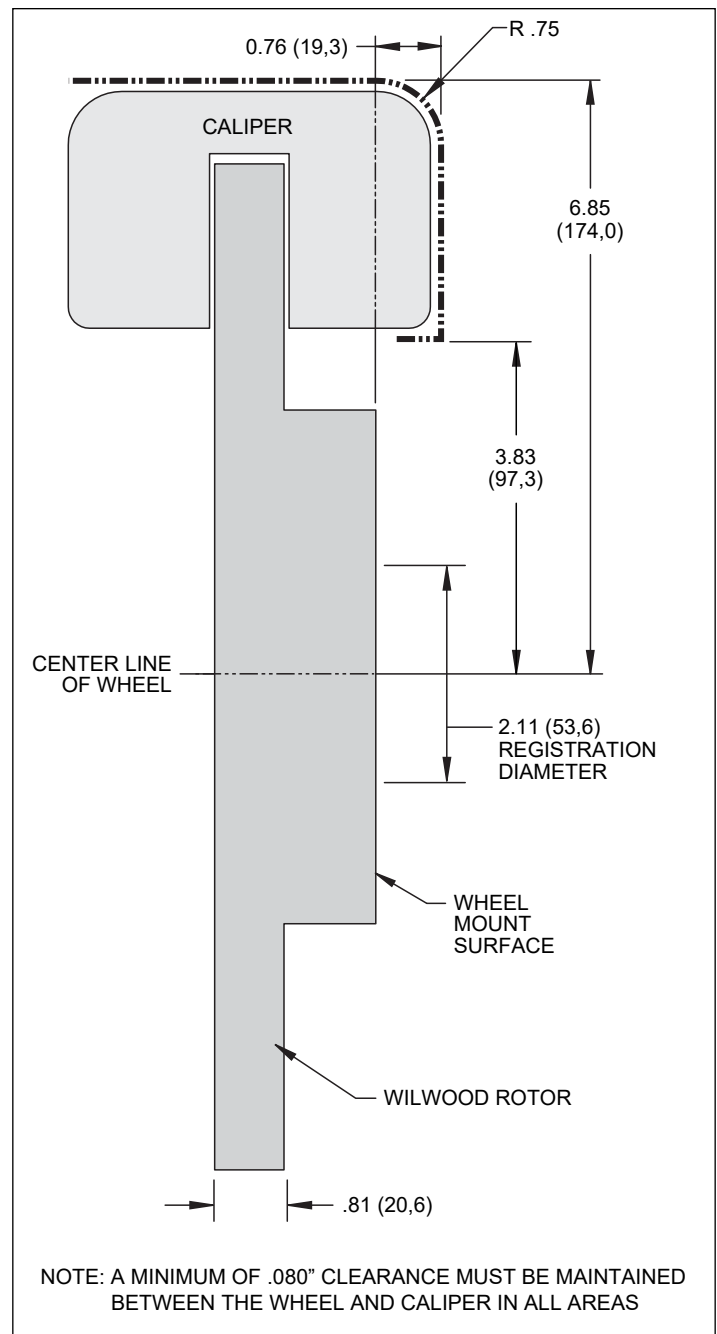

Figure 2. Wheel Clearance Diagram
- Review the Wheel Clearance Diagram (Figure 2, page 4) to verify that there is adequate clearance with the wheels you will be using with the installation.
• Verify your wheel clearance using Figure 2.